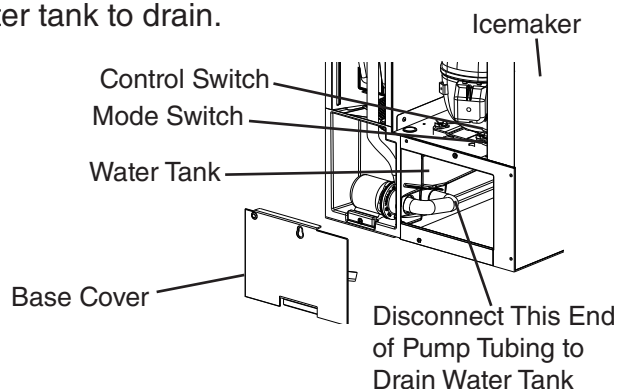

Fig. 20
- 14a)(1) For **KM-322_522MAK, KM-622M_K(Z)** - Remove the front insulation panel, then disconnect the water tank pump tubing located behind the base cover. See Fig. 20. Allow the water tank to drain.